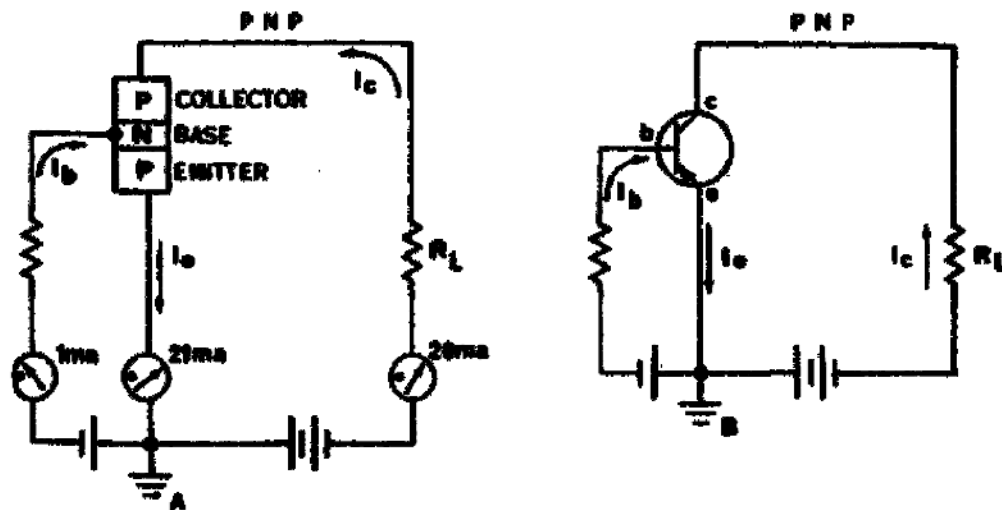

Figure 120. Common emitter circuit.
4. **Common Emitter Circuit.** The circuit that will be encountered most often is the common emitter circuit shown in figure 120. Notice that the base is returned to the emitter and the collector is also returned the emitter. The base-emitter circuit is biased by a small battery whose negative electrode is connected to the N-type base and